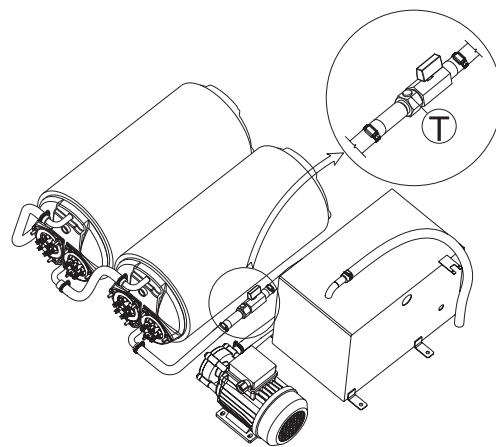

Figure 13 Rinse aid connection
- connect the rinse aid dispenser pipe, unscrewing plug "T" (Figure 13), always paying attention to potential plumbing leaks (tighten the clamps securely);